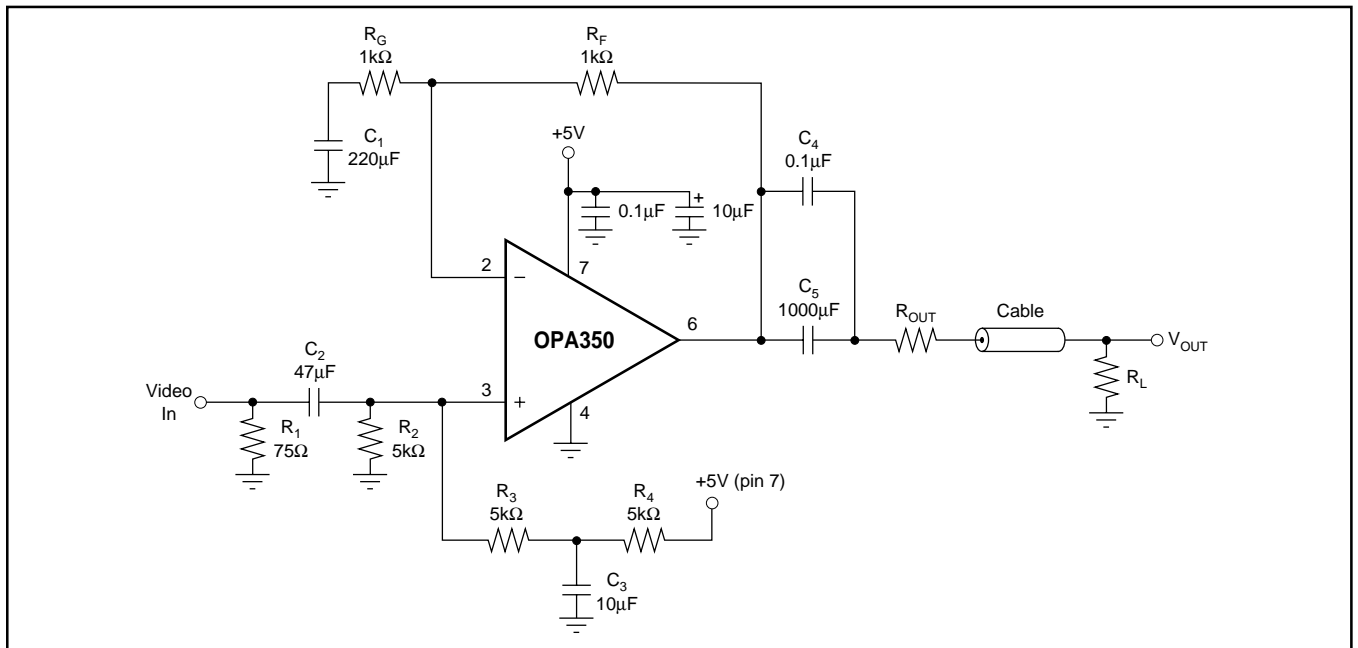

FIGURE 6. Single-Supply Video Line Driver.
NOTES: (1)  $V_S = +5V$ . (2)  $V_{OUT} = 0.25V$  to  $2.75V$ . (3) NTSC signal generator used. See Figure 6 for test circuit. (4) Output voltage swings are measured between the output and power supply rails. (5) See typical characteristic, "Output Voltage Swing vs Output Current."
Figure 6 shows a circuit for a single supply,  $G = 2$  composite video line driver. The synchronized outputs of a composite video line driver extend below ground. As shown, the input to the op amp should be ac-coupled and shifted positively to provide adequate signal swing to account for these negative signals in a single-supply configuration.
The input is terminated with a  $75\Omega$  resistor and ac-coupled with a  $47\mu F$  capacitor to a voltage divider that provides the dc bias point to the input. In Figure 6, this point is approximately  $(V-) + 1.7V$ . Setting the optimal bias point requires some understanding of the nature of composite video signals. For best performance, one should be careful to avoid the distortion caused by the transition region of the OPA350's complementary input stage. Refer to the discussion of rail-to-rail input.